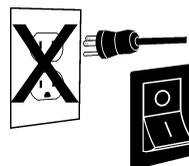

Figure 19: Battery Charging and Storage
2. If AC power is available, store the ventilator connected to AC power and with **ON/OFF** switch set to **ON (I)** (Figure 19). The battery charging cycle will be active.
3. If AC power is unavailable, store the ventilator with **ON/OFF** switch set to **OFF (O)** and disconnected from AC power.